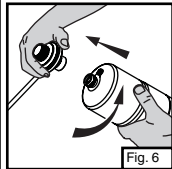

Fig. 6
- Screw propane bottle into regulator hand tight. (Fig. 6)